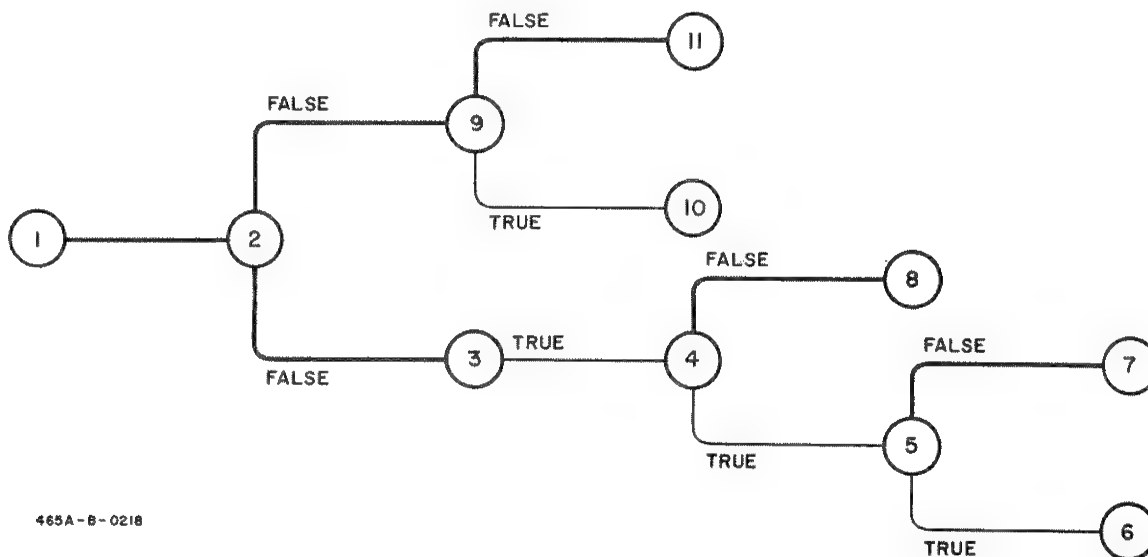

Figure 5-4. Troubleshooting Tree
5-25. Table 5-5, in conjunction with Figure 5-4, contains procedures which may be used as a guide in isolating malfunctions. The steps in Table 5-5 describe the normal conditions which should be encountered during the checks (circled numbers (N) ) in Figure 5-4.
5-27. The conditions discussed in Table 5-5 and Figure 5-4 are based on the following criteria: (1) the + side of C14 is removed from circuit, opening the feedback loop; (2) Model 465A GAIN set to 40 db; and (3) 1 mv, 2 kc signal applied to Model 465A INPUT.